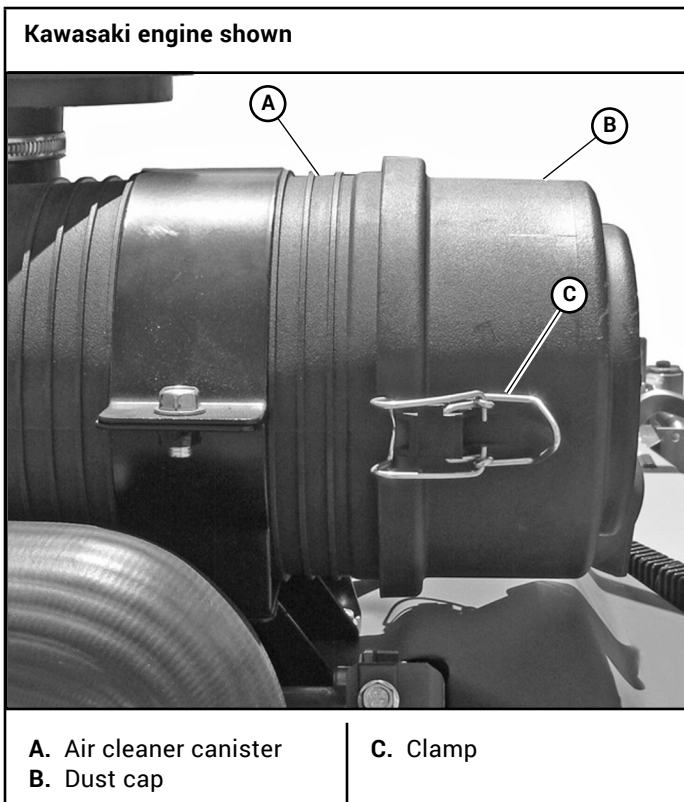

Figure 5-7
3. **Kawasaki engines** – Reinstall the dust cap. Make sure it seals all the way around the air cleaner canister, then tighten the clamps. Figure 5-7